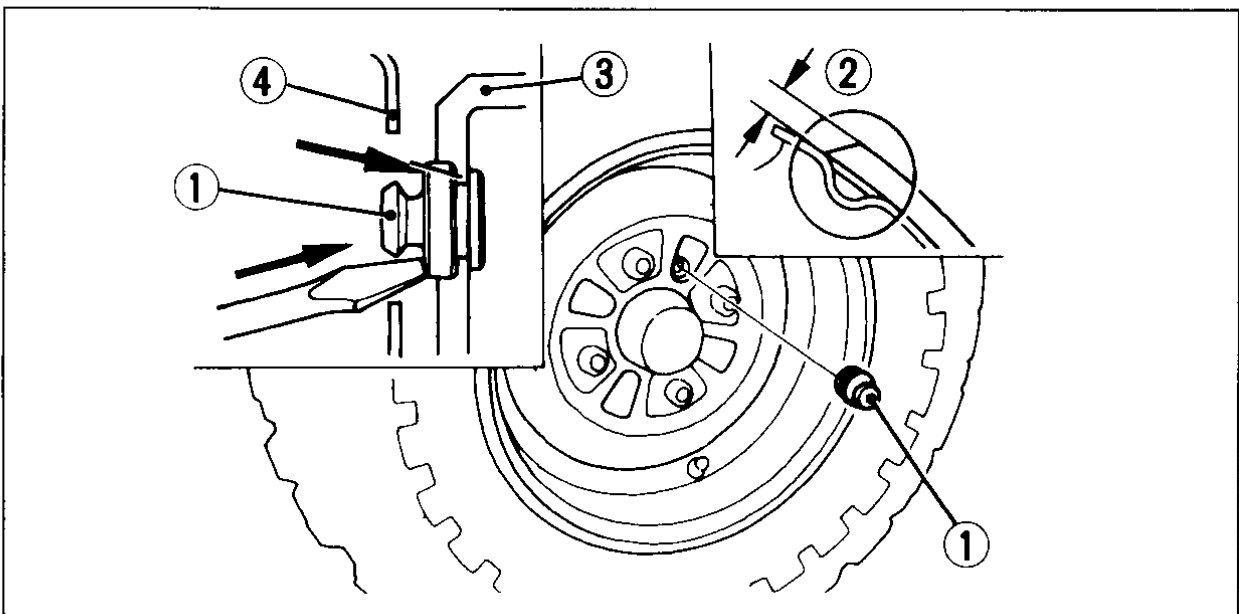
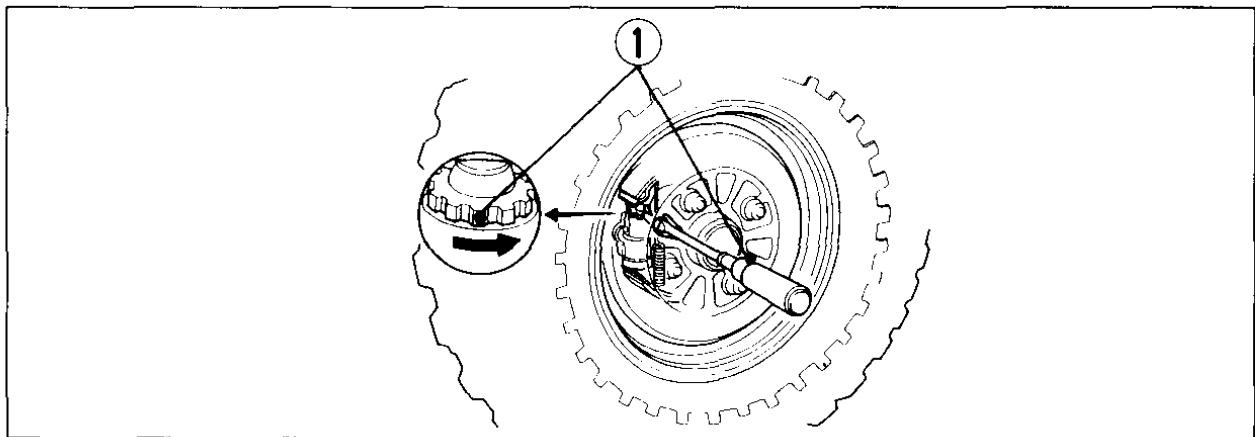

Fig. 4-24
Fig. 4-25
(1) Front brake lever
2. Remove the inspection hole plug (Fig. 4-24) and measure the lining thickness (2) on both front wheels.
3. If the brake lever free play and the brake shoe lining thicknesses are within the recommended limits, reinstall the inspection hole plugs, seating them into the inspection holes as shown in Fig. 4-24.
3. Beginning with either the left or right front wheel, remove the inspection hole plug (Fig. 4-24) and line up the hole with one of the brake adjusters (Fig. 4-25).
4. Using a screwdriver, turn the brake shoe adjuster in the direction of the arrow (1) until the front brake locks.
(1) Brake adjusters
7. Reinstall the inspection hole plug, seating it into the inspection hole as shown in Fig. 4-24.